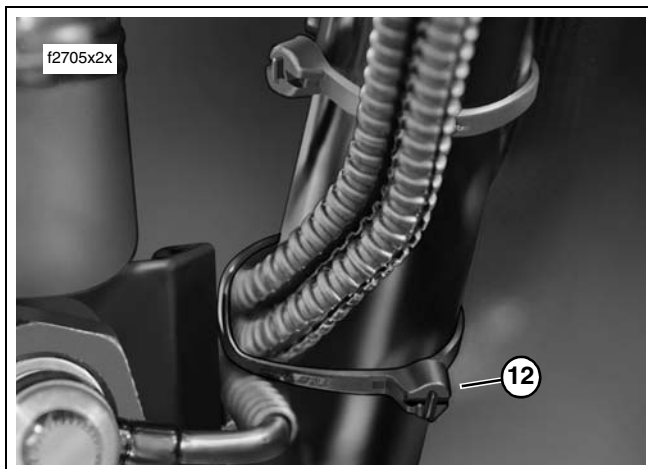

Figure 10. Install Lower Cable Strap at Front Frame Downtube
13. See item 12 of Figure 10. Install **new** cable strap capturing two front brake lines at bottom of front frame downtube. Position cable strap about 3/8 in. (9.6 mm) above rear master cylinder/brake pedal frame weldment.
17. See item 12 of Figure 10. Install **new** cable strap capturing two front brake lines at bottom of front frame downtube. Position cable strap about 3/8 in. (9.6 mm) above rear master cylinder/brake pedal frame weldment.
13. See item 12 of Figure 10. Install **new** cable strap to secure two front brake lines at bottom of front frame downtube. Position cable strap about 3/8 in. (9.6 mm) above rear master cylinder/brake pedal frame weldment.